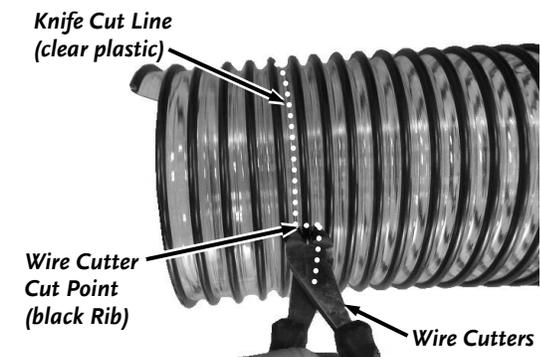

Figure 59
- Trace the area to cut around the Hose first to ensure your path meets at the opposite side (**Figure 59**).